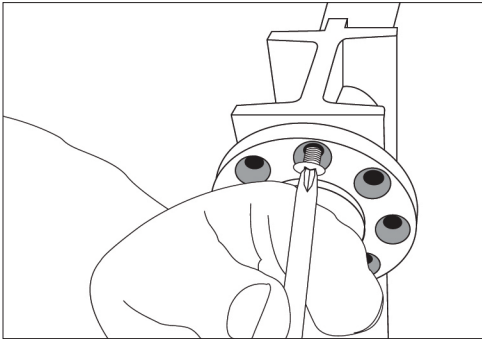

FIGURE 10
1. Unscrew and remove the adjustment plate screws (Fig. 10).